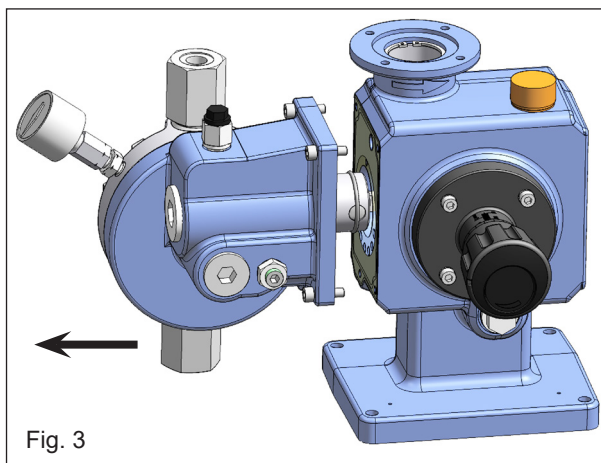

Fig. 3
5. Loosen the fixing screws (allen screws (30)) and pull off the diaphragm pump head without tilting (see fig. 3).